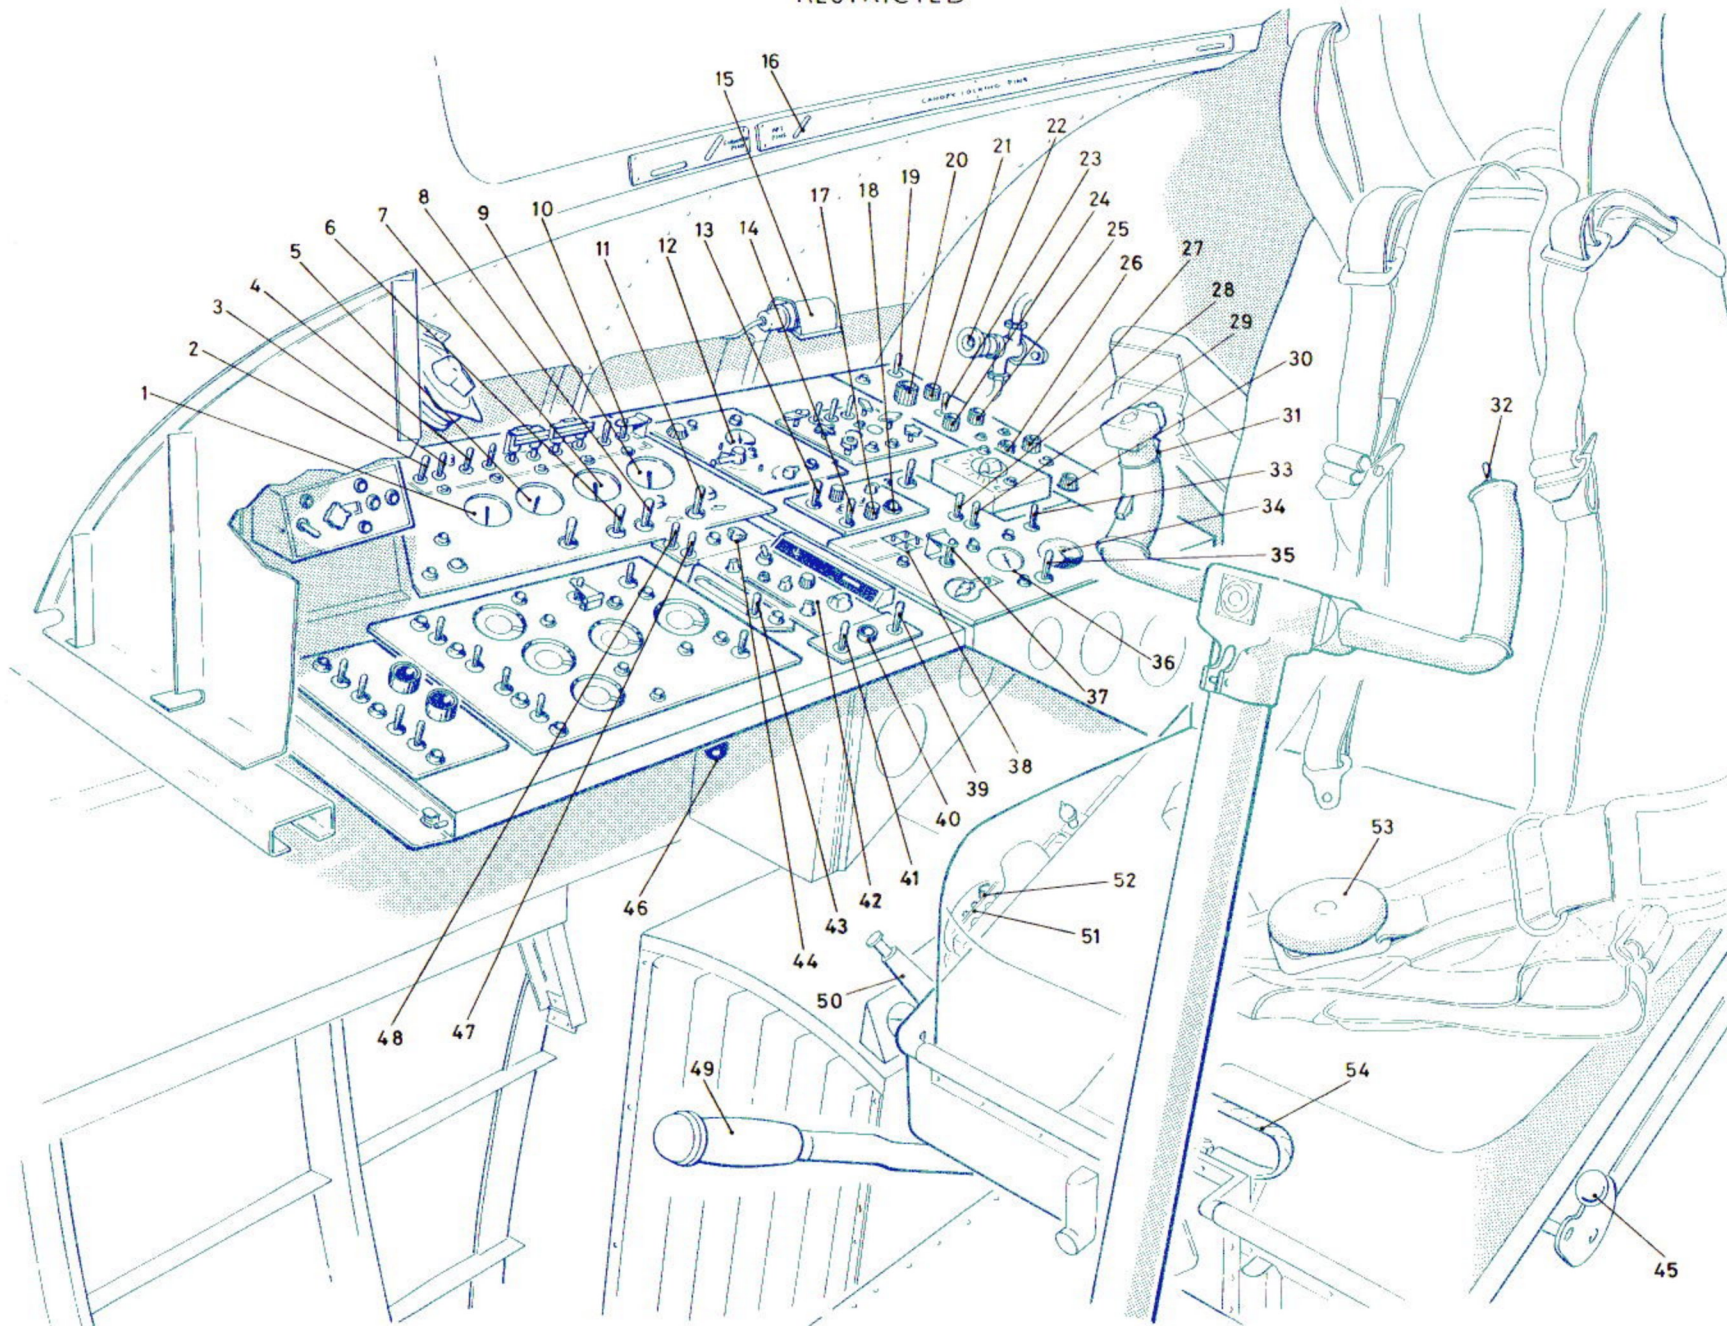

Fig.6 Operational and miscellaneous controls (2) ◀MOD 4990▶
- 13 Port console aft floodlamp. Controlled by switch on dimmer panel (fig. 6)
- 16 Port console forward floodlamp. Controlled by switch on dimmer panel (fig. 6).
- 20 Canopy closing handles (port and starboard). Hold canopy down until locking pin indicators show LOCKED item 18. Fold forward to stow.
- 34 Anti-dazzle light. Controlled by item 24, in conjunction with item 29.
- 42 Starboard console forward floodlamp. Controlled by switch on dimmer panel (fig.6).
Key to Fig. 6 - OPERATIONAL AND MISCELLANEOUS CONTROLS (2)